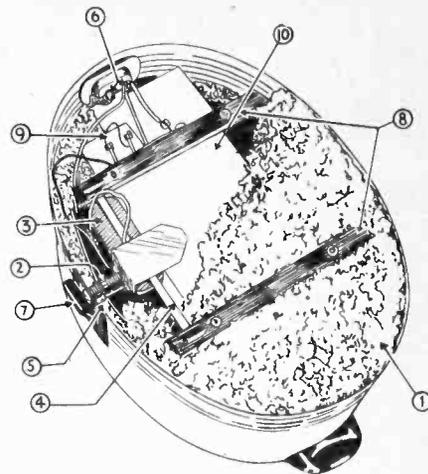

Figure 1
3. Remove insulating material from around the lamp assembly and thermostat box (*Figure 1, No. 1*).
4. If lamp is burned out it can be unscrewed and replaced at this time. (*Figure 1, No. 2*).
5. To remove thermostat box (*Figure 1, No. 3*) first slip out thermostat box retainer bar from under supports or bottom cover brackets. (*Figure 1, No. 4*).
6. Disconnect thermostat box from control knob by cutting the small brass pin closest to the knob. (*Figure 1, No. 5*).
9. Make sure all connections are tight, then place thermostat back in place and connect the shaft to the control knob. (*Figure 1, No. 6*).
THE starting relay is very positive in its action, and yet very simple in the matter of parts. Connected in series with the running winding of the motor, is the winding of a solenoid coil magnet. See *Figure 1*. When the temperature control contacts are closed, the solenoid coil winding is energized. The magnetic field or flux developed by the solenoid coil attracts and controls an armature mounted on a spring steel arm or reed. This arm also includes a contact, and together comprise part of the motor starting winding circuit. Energizing the armature causes the starting winding circuit to be completed, and the motor will start.